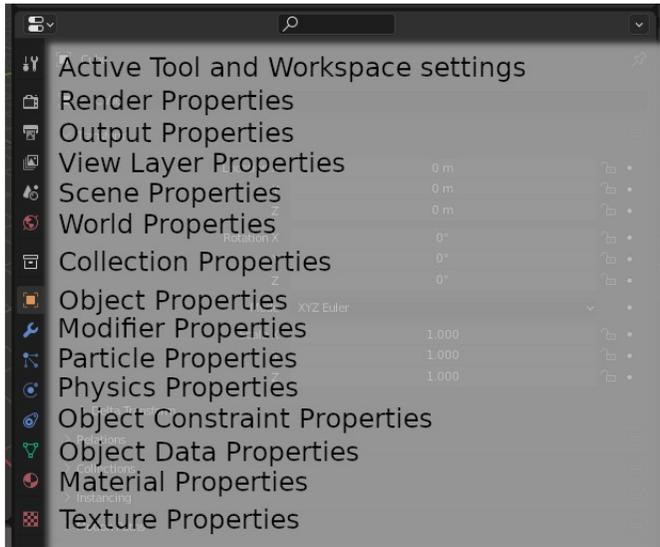

Figure 1-3 Properties Editor Tabs
- *Properties* allows you control most aspects of your scene. It is divided into many different tabs, some of which are listed in Figure 1-3, other tabs are only visible when selecting certain types of object or when using certain modes in the 3D Viewport. It isn't too much of an exaggeration to say that the rest of this book is essentially a description of what all the tabs do.